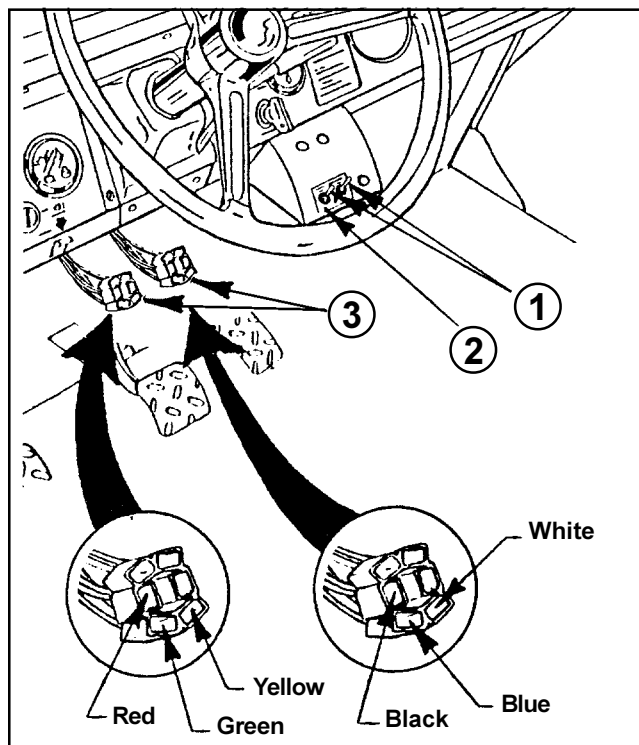

FIG. 10
2. Remove the (4) 3/8" x 1" hex hd. cap screws and (2) nuts securing the Radiator cover to the Vehicle Frame and remove Radiator Cover.
4. Remove (15) screws and washers securing Front Hood to Vehicle Frame and remove Hood.
5. Affix SPRAY BOOM CONTROL Decal around lower left holes of Switch Bracket as per FIG. 10.